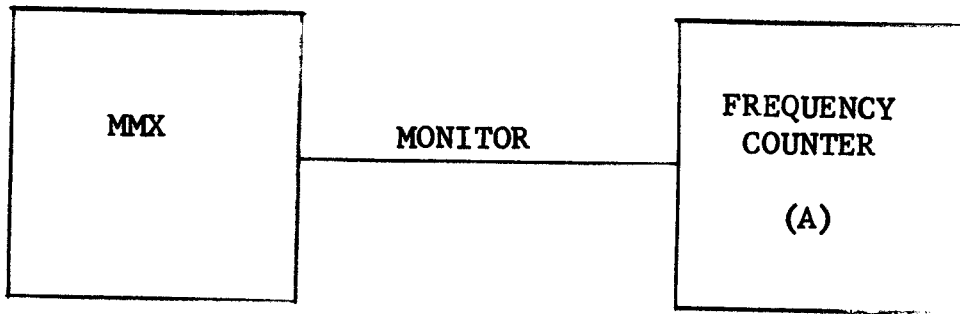

FIGURE 3.1
- a. Connect the equipment as shown in Figure 3.1.